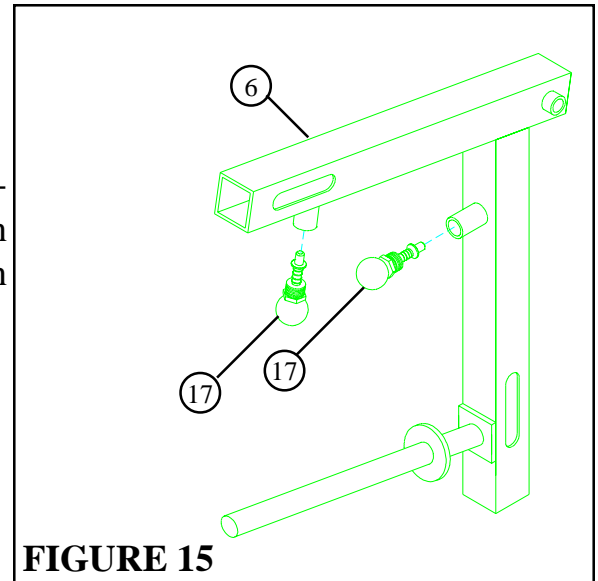

FIGURE 15
STEP 17: Securely assemble two 3/8" SPRING PIN ASSEMBLIES (17) into the spring pin barrels on the LEG CURL/EXTENSION (6) as shown in FIGURE 15.